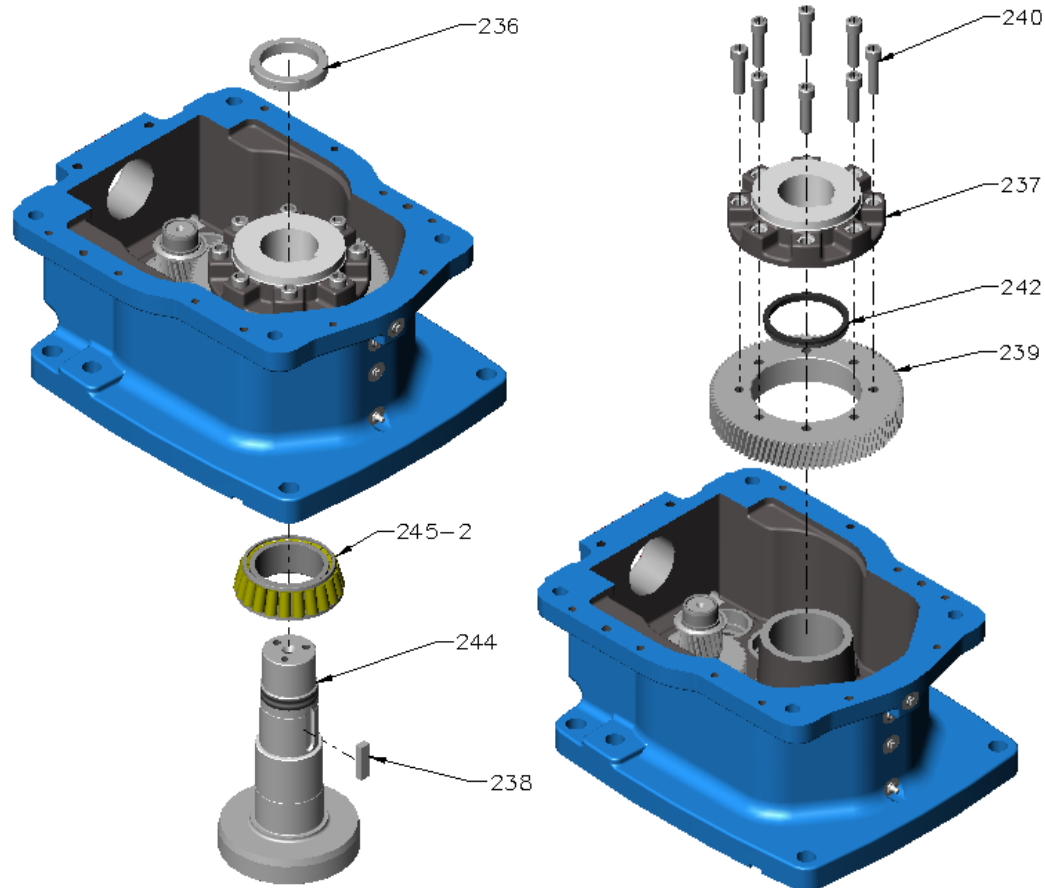

Figure 10 – Output Shaft
M. At output shaft [244], remove the following items (refer Figure 10):
N. Output shaft [244] disassembly (refer Figure 10)